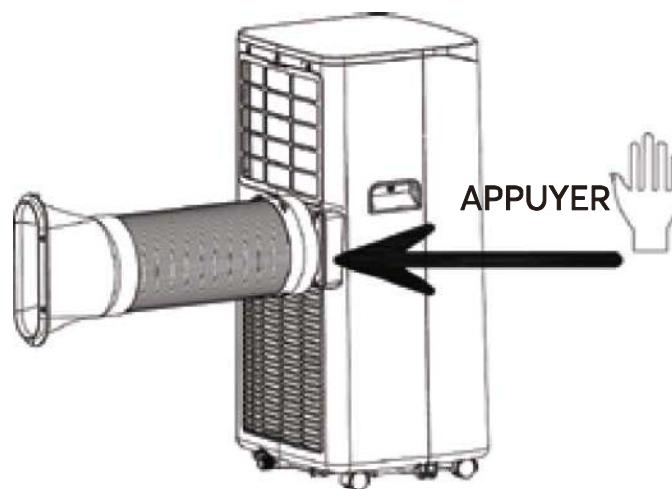

Figure 1
## 1.1 Install the heat pipe assembly (as shown in Fig.1)
- 2) Insert the heat pipe assembly (the end of the exhaust joint) into the back panel vent slot (push to the left) and complete the assembly (as shown in figure 1).